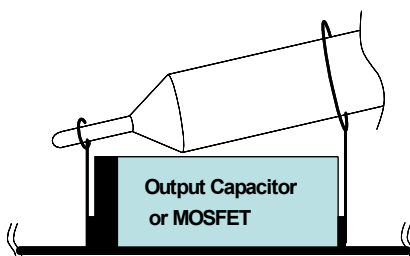
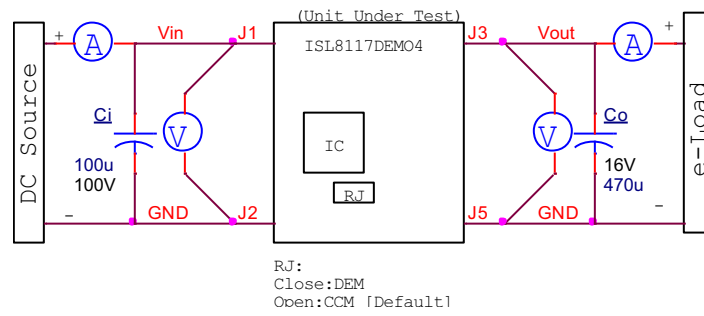

Figure 2. Proper Probe Setup to Measure Output Ripple and Phase Node Ringing
Figure 3. Proper Test Setup
As shown in Figure 3 on page 7, 6V to 60V V_{IN} is supplied to J1 (+) and J2 (-). The regulated 5V output on J3 (+) and J5 (-) can supply up to 6A to the load.
- (1) Ensure that the circuit is correctly connected to the supply and electronic loads before to applying any power. Refer to Figure 3 on page 7 for proper setup.
- (2) Turn on the power supply.
- (3) Adjust the input voltage V_{IN} within the specified range and observe the output voltage. The output voltage variation should be within 3%.
- (4) Adjust the load current within the specified range and observe the output voltage. The output voltage variation should be within 3%.
- (5) Use an oscilloscope to observe output voltage ripple and phase node ringing. For accurate measurement, refer to Figure 2 for proper test setup.